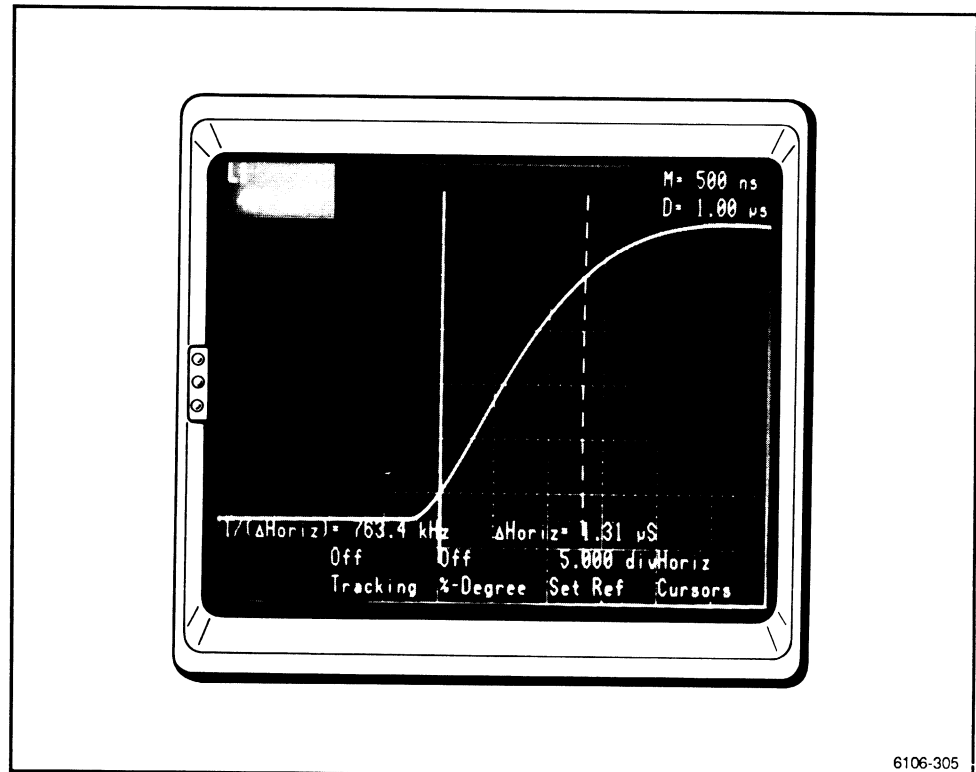

Figure 2-106. Setting the cursors to measure rise time.
6. Press the CURSORS button and select **Horizontal Cursors**. Be sure that *% Degree* is set to **Off**. Adjust the cursor lines until the left cursor intersects the trace at the 10% graticule line and the right cursor intersects the trace at the 90% graticule line. The rise time appears as ΔHoriz near the lower right corner of the crt screen. (See Fig. 2-106.)